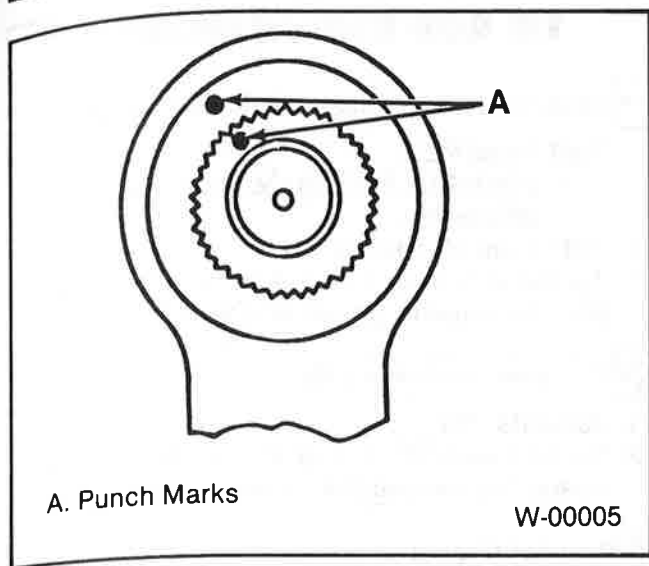

Figure 2. Marking Pitman Arm
1. Cotter pin (17).
2. Adjusting plug (6), spring (7) and seat (8).
3. Drag link (10) from the pitman arm (2).
4. Nut (4) and split washer (3).
- Mark the pitman arm (2) and pitman shaft (1), so the pitman arm can be returned to its original position at assembly (figure 2).